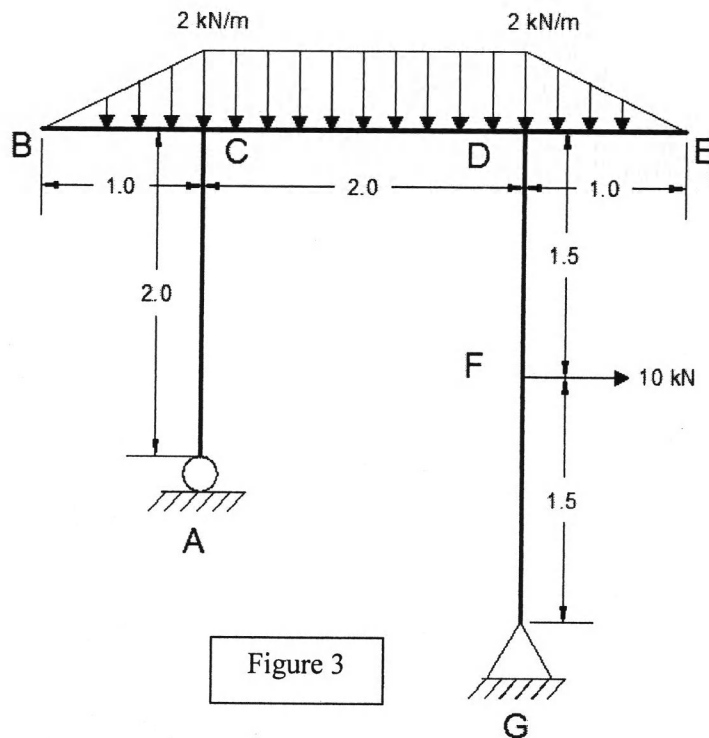

Figure 3
7. Draw the AFD, SFD and BMD for the frame shown in figure 3. Indicate salient features, if any. All dimensions are in meter. [8]